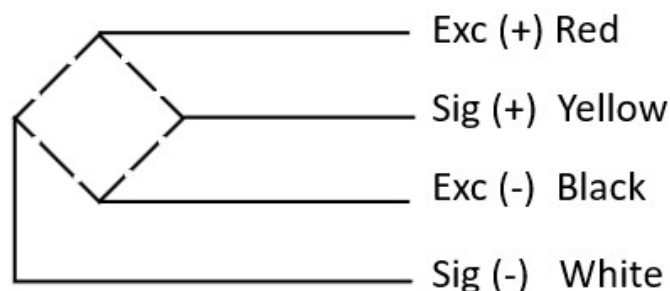

Figure 4. Wiring of the used straight bar load cell strain gauge
- To achieve this first part, apply a voltage of 0 - 12 V to the straight bar load cell TAL220B strain gauge. The strain gauge wiring is shown below (Figure 4). The supply voltage should be connected to the “*Exc connections*” and the output voltage should be measured from the “*Sig connections*”.